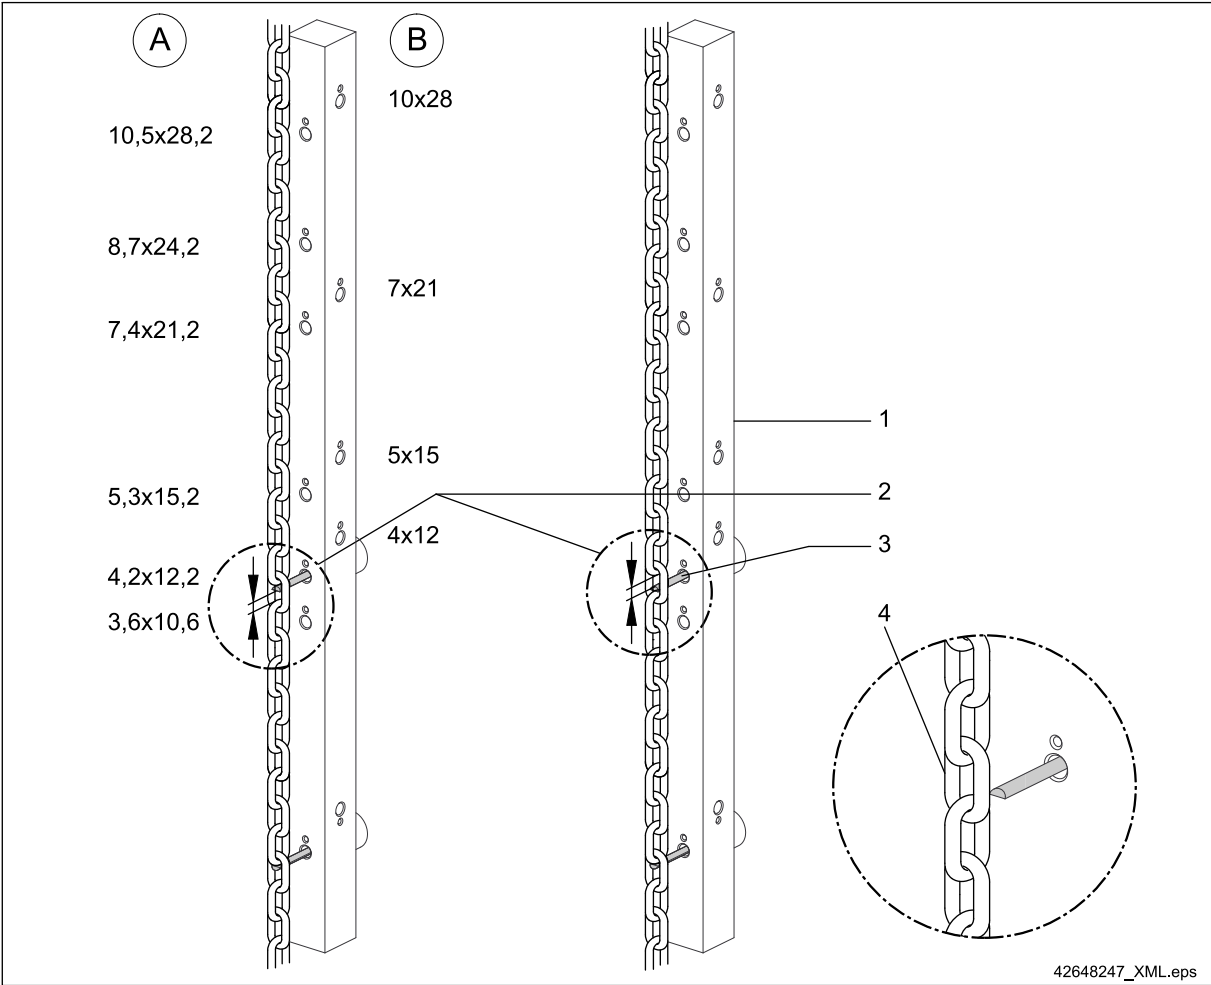

Fig. 46
- on 11 chain links \Rightarrow Fig. 46, Page 76.